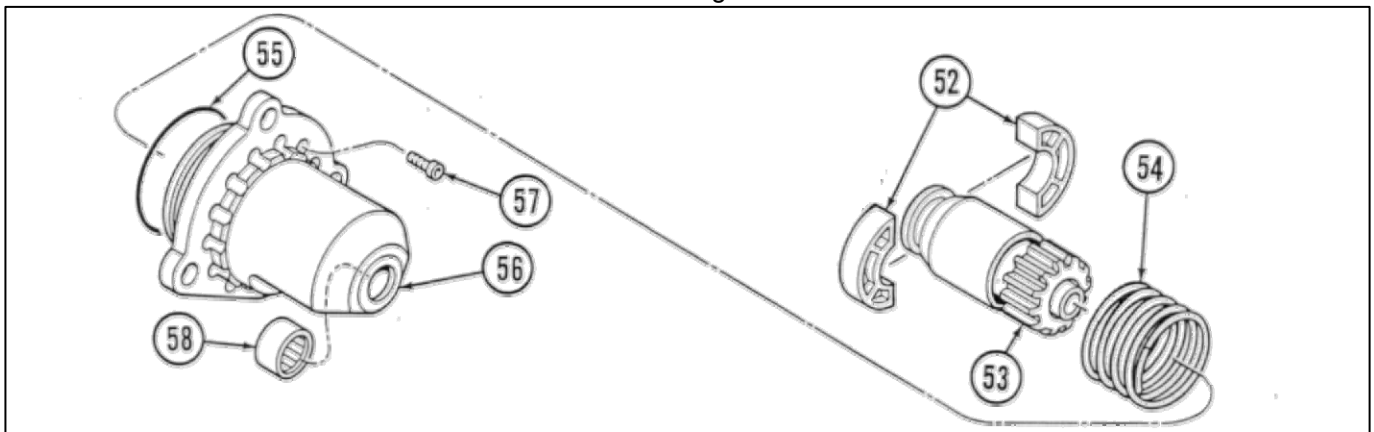

Figure 5. Drive Assembly
The drive assembly, refer to figure 5, consists of a pre-engagement drive (53) and drive housing (56). Twelve screws (57) secure the drive housing to the gearbox housing.